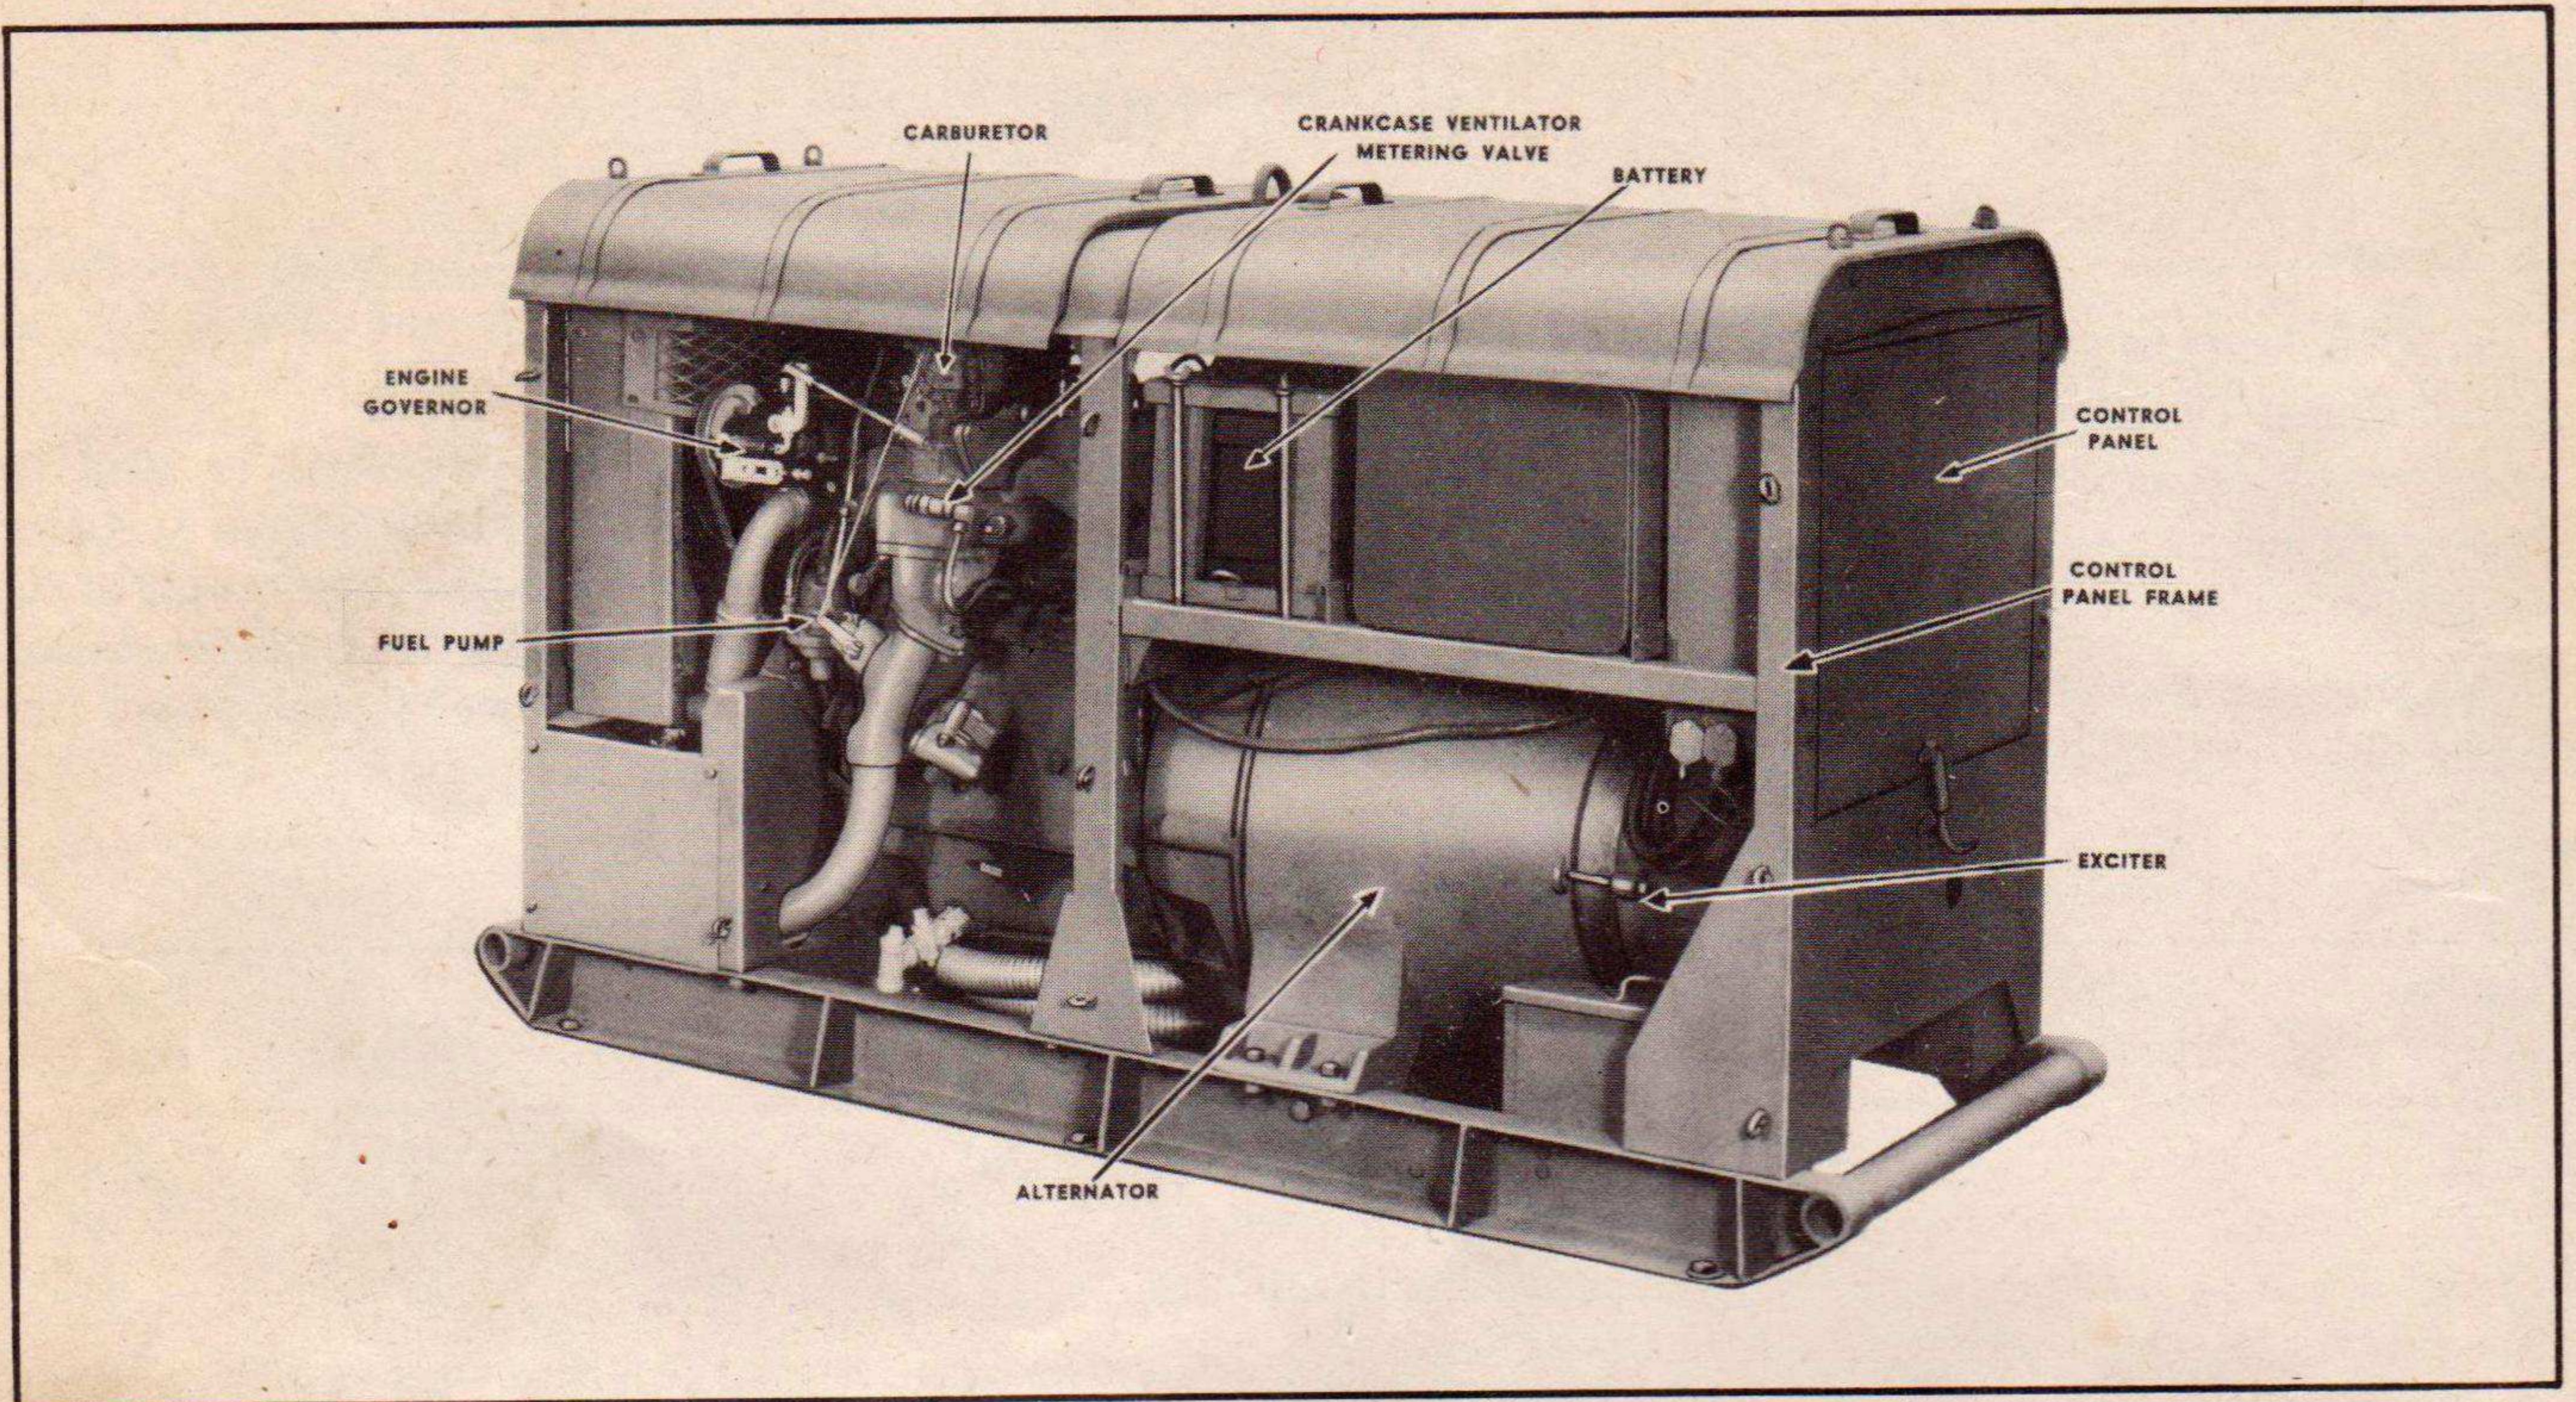

FIG. 1 POWER UNIT PE-95-G (RIGHT SIDE)
a. Description.—Power Unit PE-95-G, (Figs. 1 and 2), is a complete electric generating plant. It consists of an engine and a generator with the necessary accessories and controls, all mounted in a metal housing with a skid base.